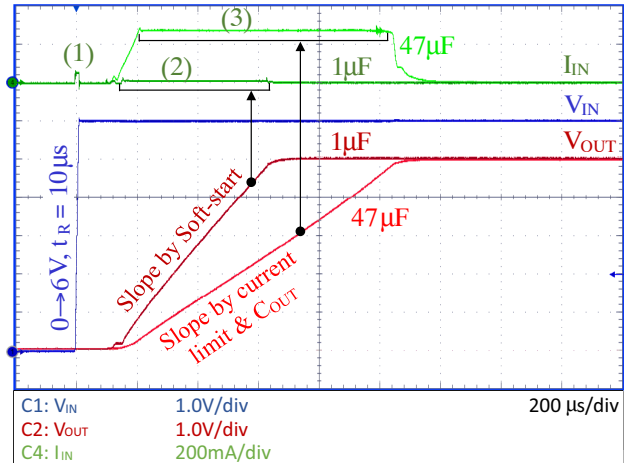

Figure 76.
Now back to LDO application. Here we can see two different inrush current spikes. The first one is caused by the LDO's input capacitor ( $C_{IN}$ ) charging from zero to the input voltage level. It happens when the previous power block (for example DC/DC) starts providing the input voltage to the LDO circuit. The maximum level of this inrush current is given by Equation 16. It doesn't matter if LDO is enabled or disabled as this inrush current spike is related only to  $C_{IN}$  and it can't be suppressed by the LDO, it is matter of previous power block. This inrush current spike is shown at Figure 76, point (1).